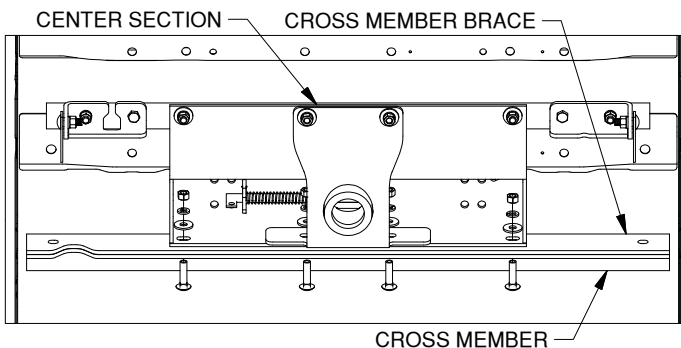

Figure G2: Looking up under truck bed (frame not shown). **PAGE 5 of 8**
- 3. Attach front cross members.** Slide the front cross member brace and the front cross member rearward against the center section. Line up the square holes in the cross members with the slots in the center section. Secure the cross member parts to the center section using the 1/2" x 2" carriage bolts, flat washers, lock washers, and nuts, as shown in Figure G2.